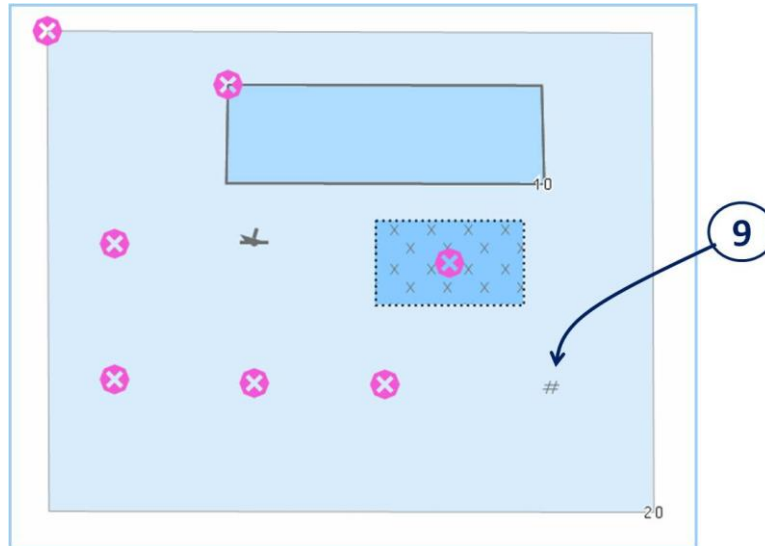

Figure 5 - Correct display of isolated dangers in OTHER mode with 10m safety contour/safety depth
6. The display should then look exactly like figure 5 and include the symbol for “foul area of seabed safe for navigation but not for anchoring” (9):